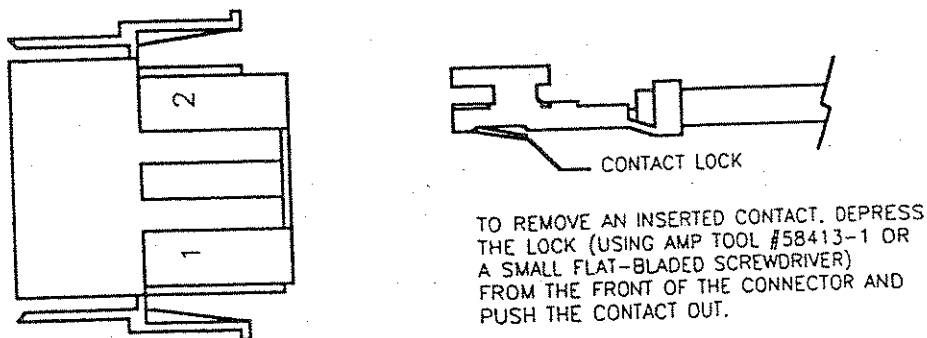
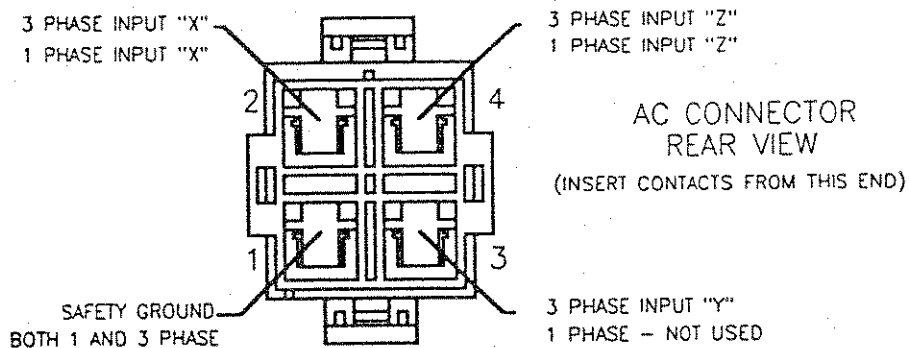

Figure 2.5-3 Contact Orientation
Figure 2.5-4 AC Wire Locations
5. Insert contact with attached wire into the connector until lock snaps into place. See **Figure 2.5-3 Contact Orientation** and **Figure 2.5-4 AC Wire Locations** to complete the connector for either single or three phase input.